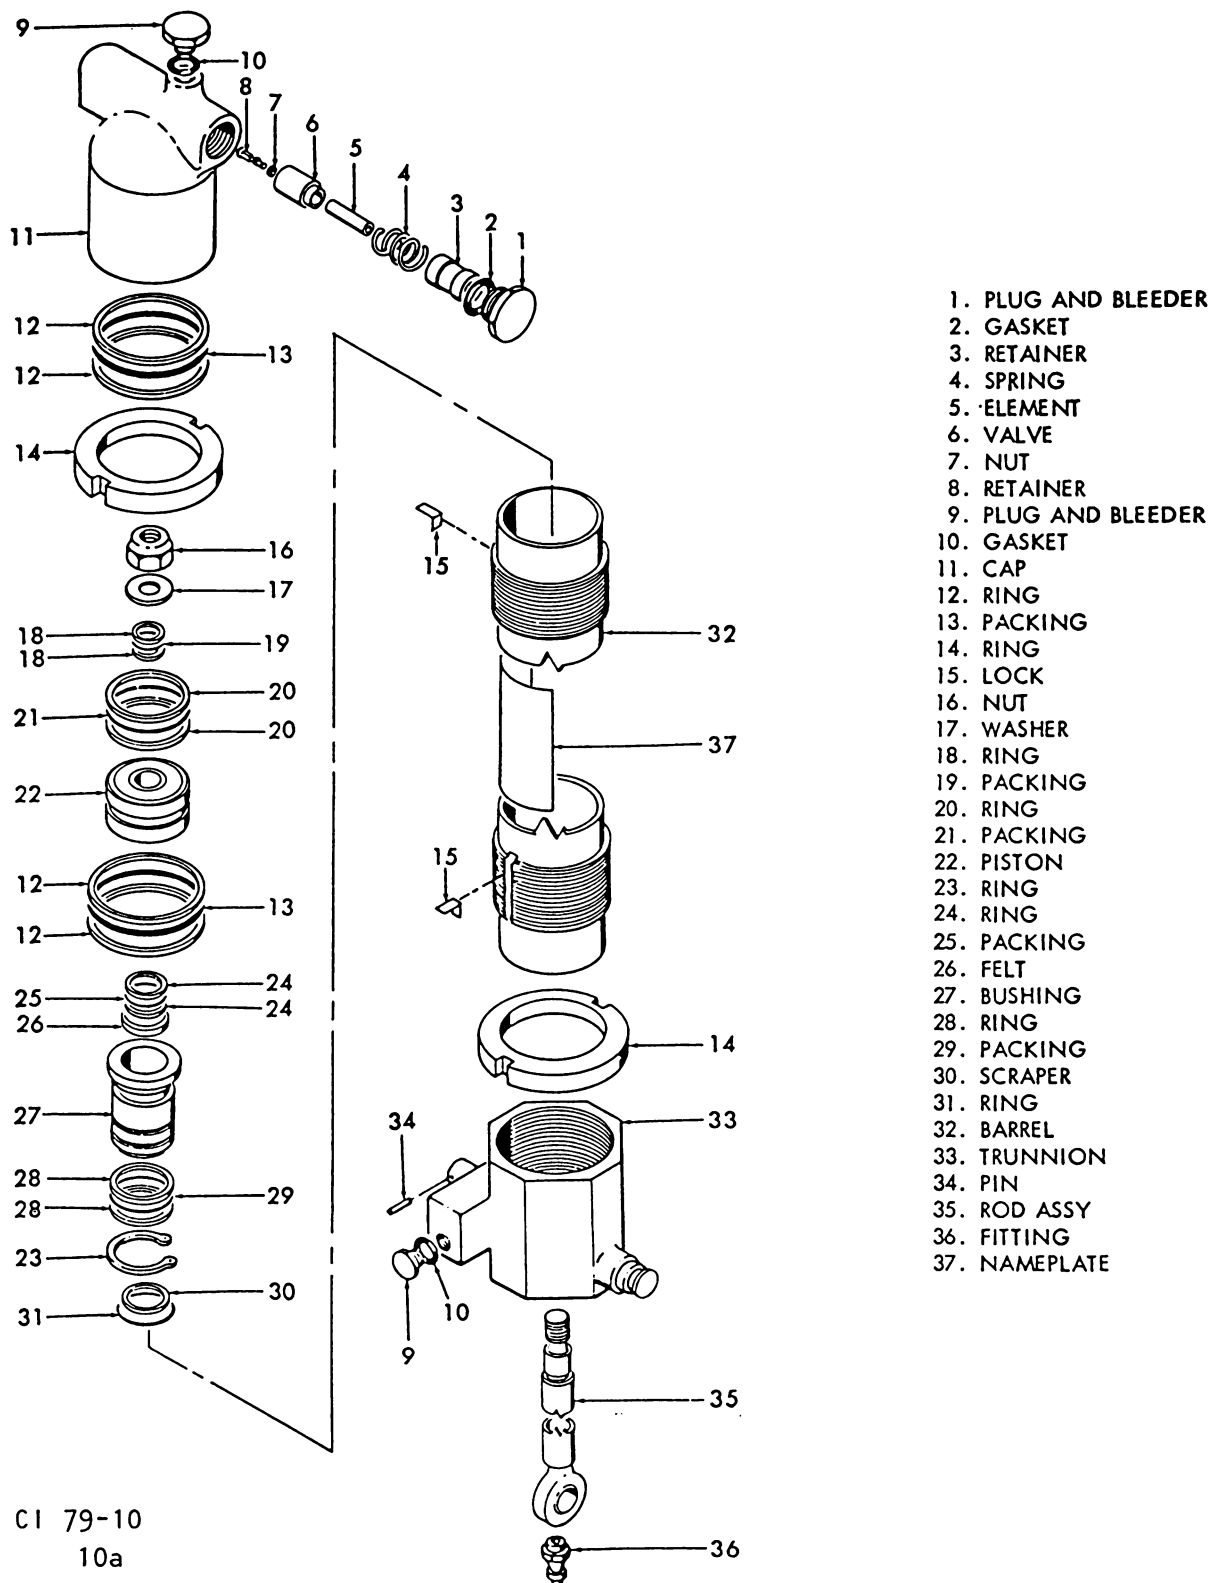
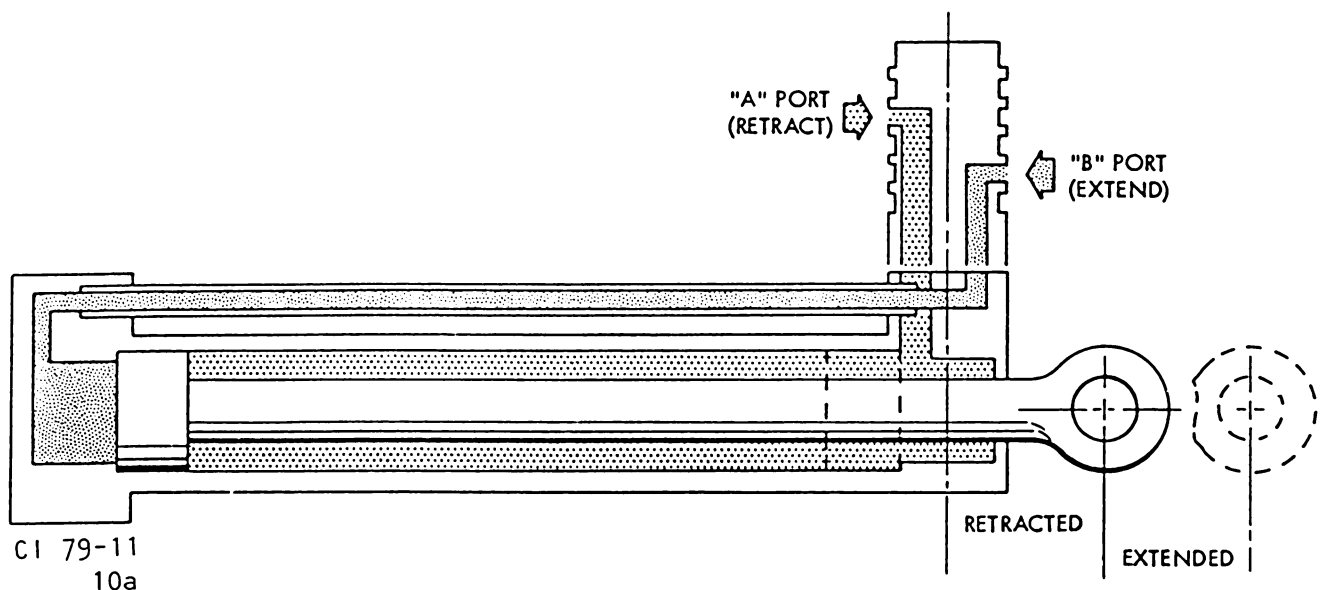

Figure 3-3. Nose steering actuator breakdown.
Figure 3-4. Testing steering actuator.
Bench Checking Steering Cylinder. The nosewheel steering cylinder is one of the items you can repair in the shop, especially if it is leaking (internally or externally). When the cylinder is to be repaired, choose a clean working area for disassembly. As parts are removed, place them in a clean container for protection against dirt and moisture. Disassemble the cylinder assembly in order of the key index numbers assigned to the exploded view shown in Figure 3-3. Before the locking (14) can be loosened, the safety wire on the lock (15) must be cut. Then the locking (14) must be loosened so the lock (15) can be removed. With the lock removed, the end cap can be unscrewed. (NOTE: Do not remove the nameplate (37) from the barrel. After disassembly, wash and clean all parts with cleaning solvent. After all dirt, sludge, and sediment have been removed, flush the parts with clean solvent. Dry with a clean, lint-free cloth, or use compressed air if available. Place all parts in a clean container until ready for reassembly. Do not clean packings, back-up rings or retainer rings removed during disassembly as these items should be replaced at each overhaul. Inspect the various parts.
parts in the reverse of disassembly. After reassembly, you are ready for testing the unit. Connect the cylinder's retraction port on a hydraulic pressure source, as shown in figure 3-4. With the piston fully retracted and the extension port open, apply 4500 psi pressure to the retraction port and hold for 10 minutes. There should be no damage or internal or external leakage. Connect the cylinder assembly's extension port to a hydraulic pressure source with the piston fully extended and the retraction port open to atmosphere, apply 4500 psi pressure to the extension port, and hold for 5 minutes. Again, make sure there is no damage, internal or external leakage. Now set the actuator so that pressure can be applied alternately from the extend to the retract port. Using 3000 psi pressure, cycle the cylinder assembly five complete cycles. Operation should be smooth with no sticking or binding. After the pressure check, retract the piston fully and measure the distance between the centerline of the trunnion and the centerline of the rod end bearing. This dimension should not exceed specified technical order limits. If the measurement falls outside these limits, loosen the lockring one turn and adjust the cap on the barrel either way, as required. (NOTE: Insure that the lockslot in the trunnion (33, fig. 3-3) is lined up with the lockslot in the barrel (32) so the lock (15) can be positioned properly.) Now extend the piston fully and measure the distance between the centerline of the rod end bearing. This dimension should be as specified in the technical order. If the measurements fall outside specified limits, check the piston, rod, cap, and trunnion for correct assembly and internal obstructions. If the cylinder assembly does not meet the requirements of any of the above tests, disassemble the cylinder, reinspect the components, replace